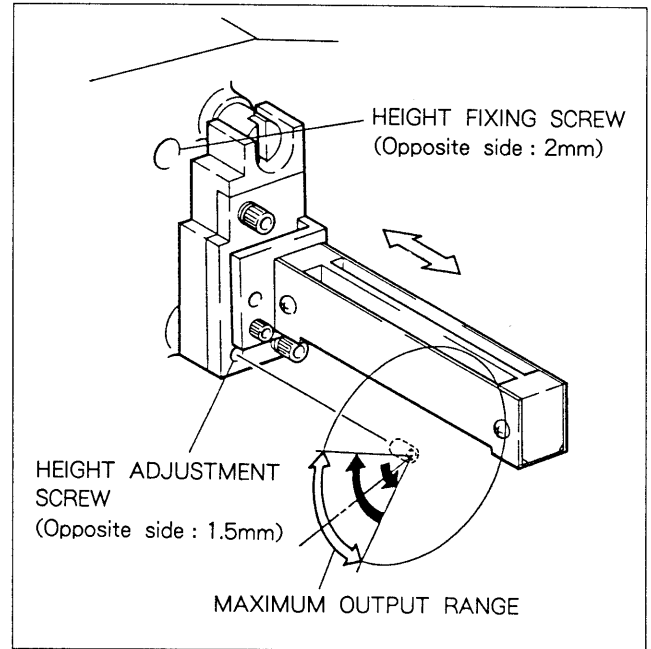

Fig. 9-8-4. Audio Monitor Head Height Rough Adjustment
- (1) Thread an alignment tape and play it back. (Any Portion for the FR2-1, after TC 10:30:00 for the FR2-2)
- (2) Loosen the height fixing screw shown in Fig. 9-8-4.
- (3) Turn the height adjustment screw in the counterclockwise direction so that the CH-2 (DA. CH-8) output is zero. Turn the height adjustment screw gradually in the clockwise direction until the CH-1 (DA. CH-1) output becomes the maximum, and check the maximum output range.
- (4) Set the height adjustment screw in the middle of the CH-1's maximum output range.